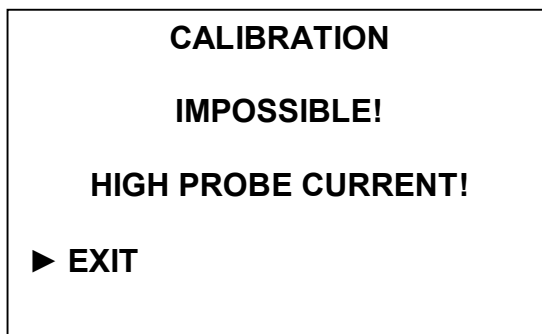
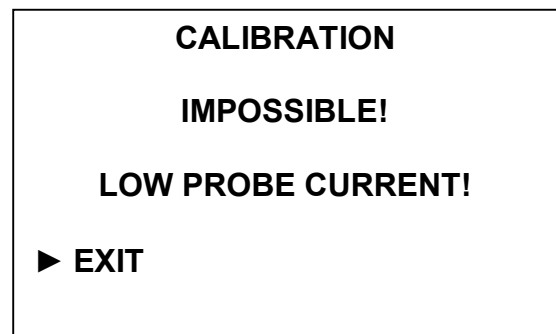

Fig. 2.6
Fig. 2.7
If displays shown in Fig. 2.6 and Fig. 2.7 have come up, refer to 2.6 "Troubleshooting".
**6** Press any key and the analyzer shall go over to the measurement mode. If displays shown in Fig. 2.6 and Fig. 2.7 have come up, refer to 2.6 "Troubleshooting".